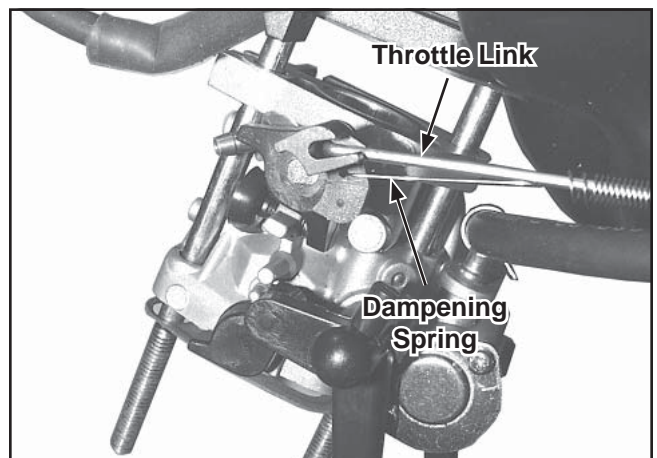

Figure 11-59. Install Carburetor Throttle Link.
3. Connect the throttle link and dampening spring into their respective holes in the throttle lever. See Figure 11-59.